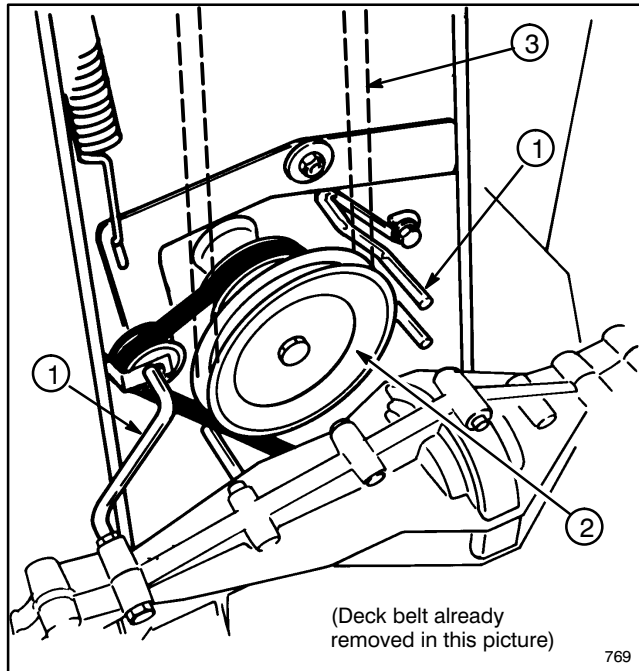

Figure 21
4. Loosen belt guides near engine pulley and rotate them out of the way. Remove deck belt from engine pulley (Fig. 21).
3. Loosen and remove (1) mounting screw securing each belt guide to cutting unit. Pivot belt guides away from spindle pulley and remove belt. Visually inspect belt for wear or damage (Fig. 21).
3. Remove deck belt from engine pulley (Fig. 21).